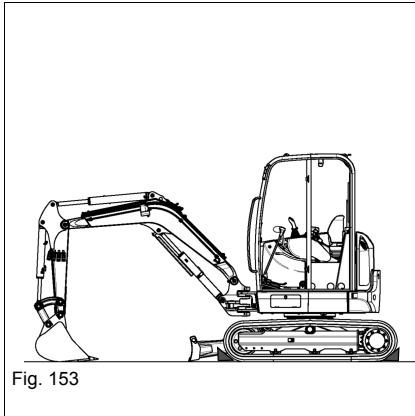

Fig. 153
10. Secure the machine with wheel chocks (see Fig. 153).